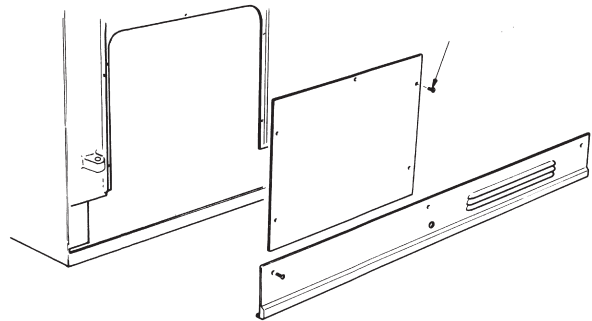

FIG. 9
- SEE FIG. 9
2. Remove (4) inner panel securing screws and remove panel.
- 3 Remove the (3) plinth securing screws and remove plinth.